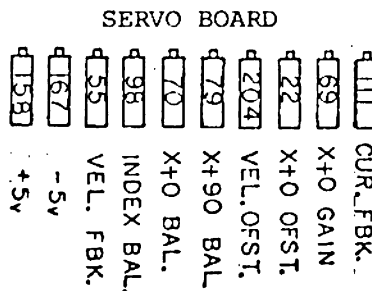

FIGURE 2
- 15.0 Adjust R69 on SERVO BOARD to approximately its center range. (Figure 2)